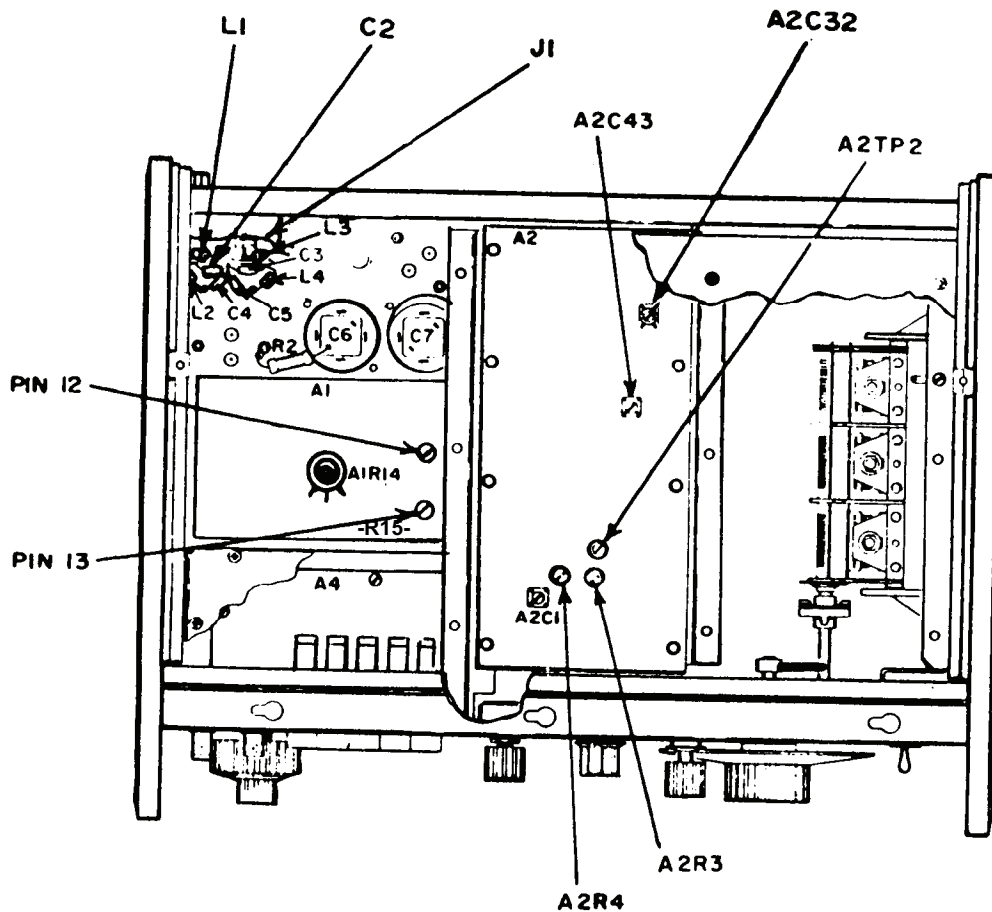
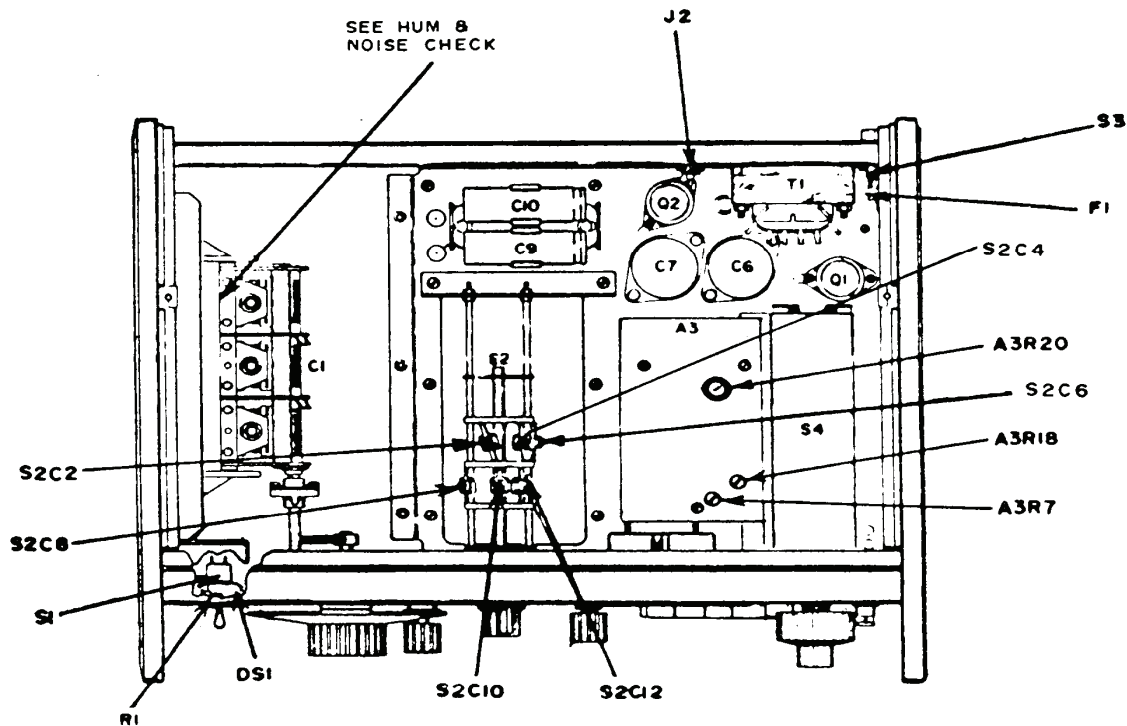

Figure 1. Adjustment locations - bottom view.
Figure 2. Adjustment locations - top view.
(1) Connect multimeter between A2TP2 (fig. 1) and chassis ground termination.
(2) Connect audio analyzer or spectrum analyzer to TI UNBAL output, using 50 Ω feed-through termination.
(3) Position controls as listed in (a) through (d) below:
(4) Adjust A2R3 (fig. 1) for a -350 mV indication on multimeter (R).
(5) Adjust A2R4 (fig. 1) for minimum distortion on audio analyzer, or at least -46 dB on the spectrum analyzer (R).
(6) Rotate **FREQUENCY** dial fully ccw.
(7) Alternately adjust S2C2 (fig. 2) and S2C8 (fig. 2) until frequency counter indicates 10.2 kHz and multimeter indicates between -340 mV and -360 mV (R).
(8) Rotate **FREQUENCY** dial fully cw. Frequency counter will indicate between 965 Hz and 970 Hz.
(9) Set **FREQUENCY** dial for a 1 kHz indication on frequency counter. If dial does not indicate 1, perform (a) through (c) as listed below:
- (c) Tighten retaining screws and install **FREQUENCY** dial knob (R).
(10) Set **FREQUENCY** dial to 10.
(11) Readjust S2C2 (fig. 2) and S2C8 (fig. 2) alternately until frequency counter indicates 10 kHz and multimeter indicates -350 mV (R).
(12) Set **FREQUENCY RANGE** switch to **X1M** and **FREQUENCY** dial to 10.
(13) Adjust S2C6 (fig. 2) and S2C12 (fig. 2) for a frequency counter reading between 10.1 MHz and 10.2 MHz, and A2TP2 (fig. 1) for multimeter reading between -0.38 V and -0.40 V (R).
(14) Set **FREQUENCY** dial to **5**. If frequency counter does not indicate between 4.935 MHz and 5.065 MHz, go to (15) below. If (15) below is not performed, proceed to (16) below.
(15) Set **FREQUENCY DIAL** to **10**. If frequency counter indication was high, adjust A2C1 (fig. 1). If frequency counter reading was low, adjust A2C1 (fig. 1) to lower frequency counter reading and repeat (12) through (14) above (R).
(16) Set **FREQUENCY RANGE** switch to **X100K** and **FREQUENCY** dial to **10**. Adjust S2C4 (fig. 2) and S2C10 (fig. 2) for a frequency counter reading between 987 kHz and 1013 kHz and multimeter reading at A2TP2 (fig. 1) between -0.3 V and -0.4 V (R).
(17) Repeat (1) through (16) above until frequencies are within specified limits.
- (1) Rotate A3R18 (fig. 2) fully cw.
- (2) Adjust A3R7 (fig. 2) until **AMPLITUDE** control has sufficient range to exceed maximum meter deflection at both ends of meter scale.
- (3) Adjust **AMPLITUDE** control for a -1 dBm indication on TI meter. Record multimeter indication as R2.
- (4) Multiply R2 by 1.259 and record as R4.
- (5) Adjust **AMPLITUDE** control for value of R4 on multimeter.
- (6) Adjust A3R18 (fig. 2) for a +1.0 dBm indication on TI meter
- (7) Adjust **AMPLITUDE** control for a 0.7071 V rms indication on multimeter.
- (8) Adjust A3R7 (fig. 2) for a 0 dBm indication on TI meter (R).
- (9) Rotate **AMPLITUDE** control fully cw.
- (10) Adjust A3R20 (fig. 2) for a 0.80 V indication on multimeter (R).
- (11) Adjust **AMPLITUDE** control for a 0 dBm indication on TI meter.
- (12) Adjust A2C43 (fig. 1) for R2 value recorded in 9 a (9) above (R).